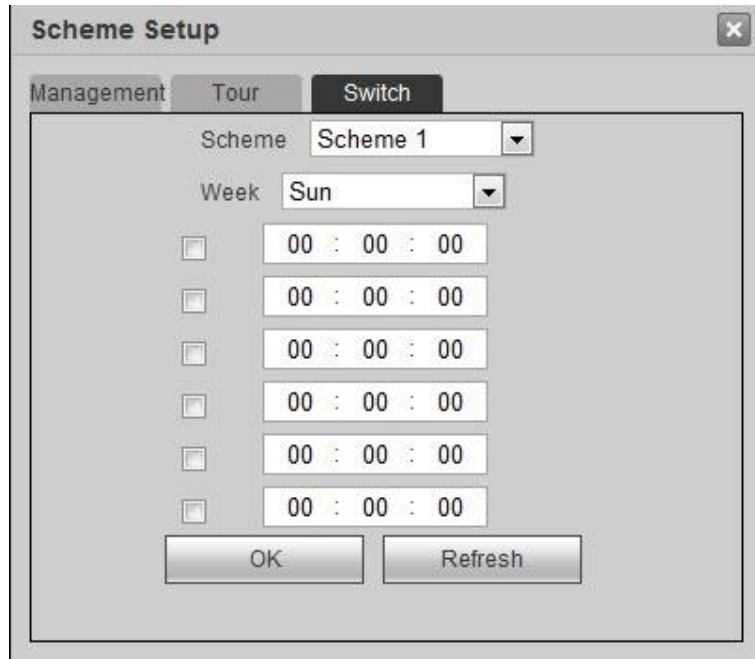

Figure 4-16
Step 1 Select "Switch" tab. The system displays "Switch" interface, as shown in Figure 4-16.